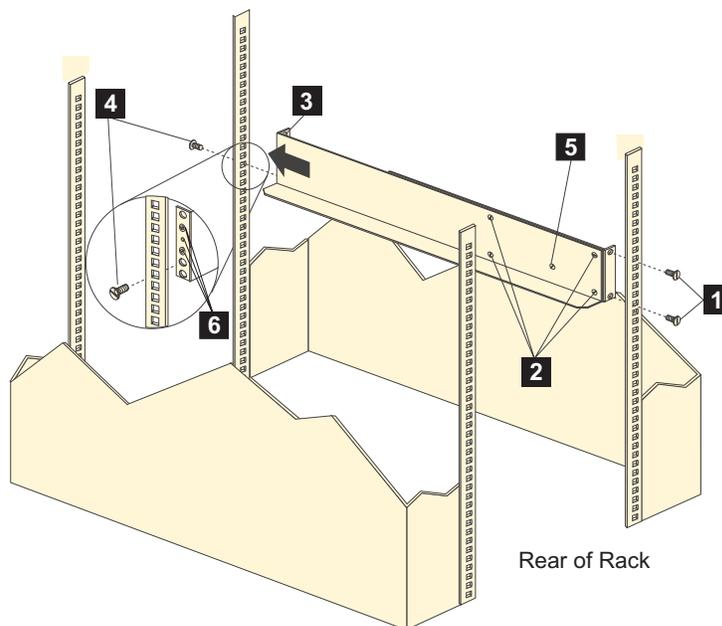

Figure 12. Installing the support rails
Note: Refer to Figure 12 on page 26 while performing these steps.
Note: The support rails are not marked as Left or Right. However, each rail can be correctly mounted on only one side of the rack cabinet. The rails should be mounted with the alignment pins at the front of the rack. Figure 12 shows the installation of the left support rail.
- d. From the back of the rack, insert the two 6/32 in. screws (**5** in Figure 12 on page 26), one on each side, in the holes on the side of the unit. Tighten the screws.